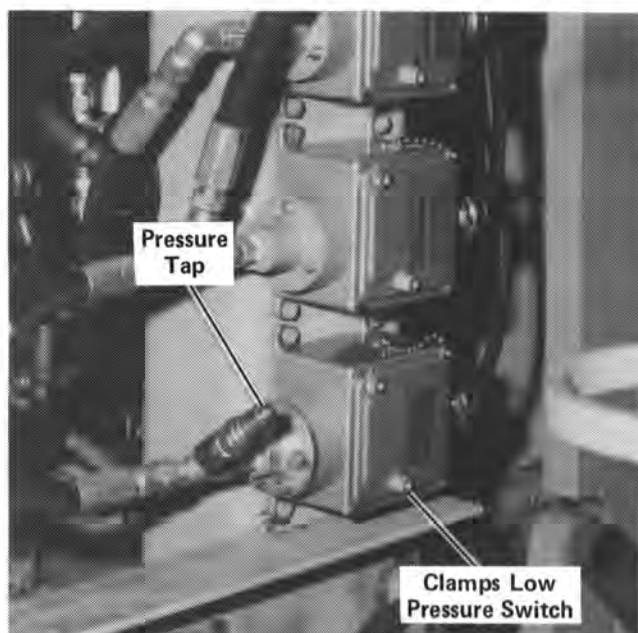

Figure 47
1. Install the pressure gage on the pressure tap at the clamps low pressure switch. See Figure 47.